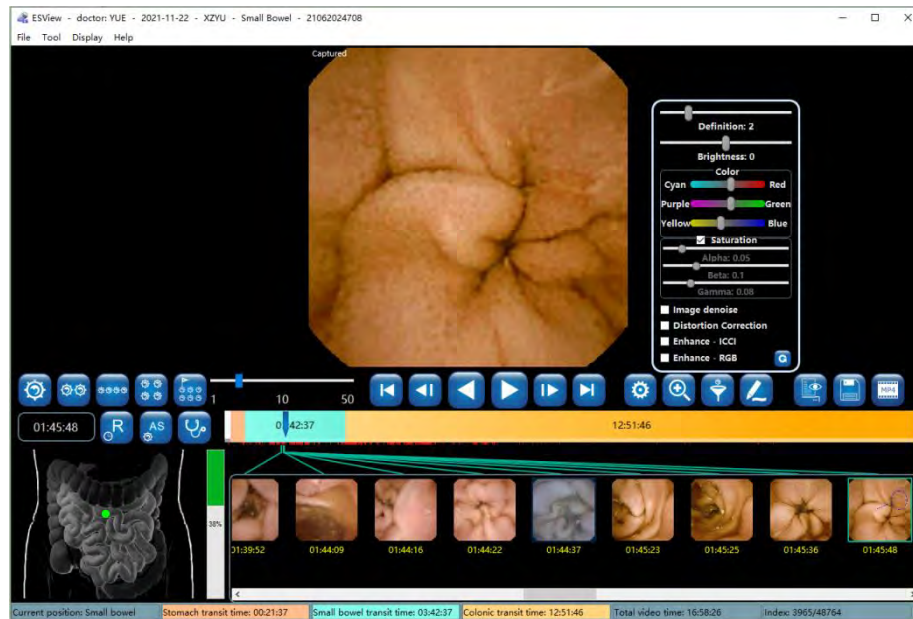

Figure 4-36: Image Saturation Adjustment
6. Use the saturation adjustment sliders to adjust image saturation (Figure 4-36).